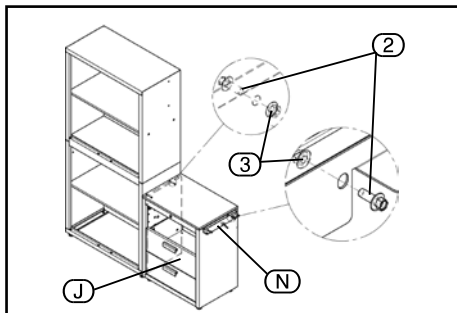

FIG. 7
8.6 CABINET CONNECTION – FIG. 7